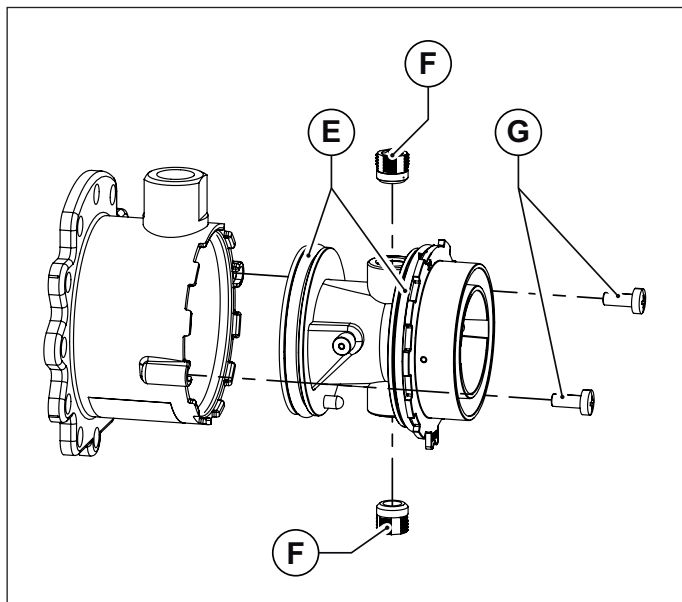

Fig. 38 Mixer plastic body
- Loosen the two retaining screws, and slide out mixer plastic body (see Fig. 38 Mixer plastic body).
- Using a 6 mm Allen wrench, loosen the two mixer nozzles (see Fig. 38 Mixer plastic body).
- To refit the plastic body (Venturi), insert it inside mixer and secure it in place with the retaining screws. Take care not to damage the O-rings assembled on plastic body ends (see Fig. 38 Mixer plastic body) and to respect the assembling direction (see Fig. 39 Assembling direction).
- Refit the reassembled mixer onto the fan with the socket head screws, making sure to insert the O-ring between mixer and fan (see Fig. 38 Mixer plastic body).